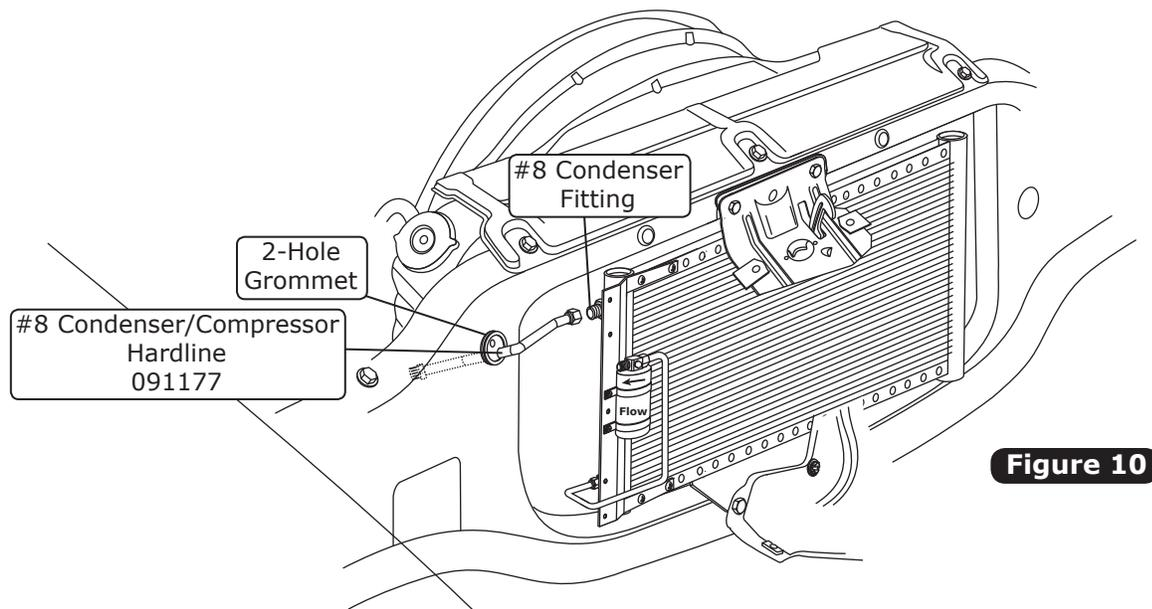

Figure 10
1. Install the 2-hole grommet into the 1 1/4" hole on the core support (See Figure 10, below).
3. Install the #8 condenser/compressor hardline onto the #8 condenser fitting as shown in Figure 10, below. Tighten fittings as shown in Figure 6, Page 9.